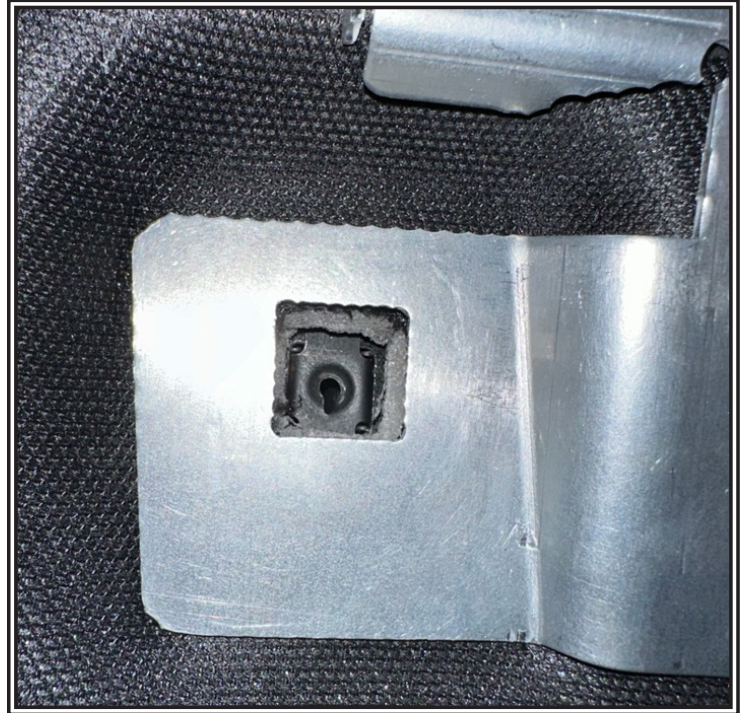

Figure 2
4. Adjust Supervisor so that the housing aligns with the hole in the headliner and reinstall sun visor clip. See Figure 2 & 3.